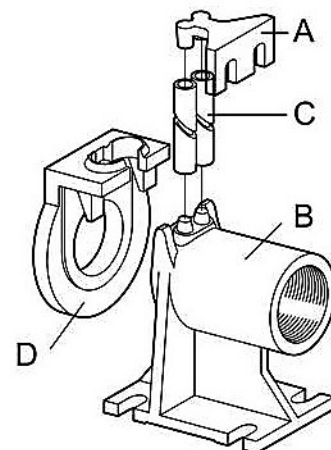

Fig. 7 | Anchor basis
- Fix the pipe anchoring bracket/basis (fig 7 - pos. A) to the edge of the tub.
- Place the support basis for the automatic coupling on the bottom of the tub (Fig. 7 pos B). Check, by means of a plumb line, that the conical projections are perfectly perpendicular to the corresponding projections of the tub edge anchor bracket.
- Mark the position of the slots on the support basis, then measure the exact length of the guide tubes (Fig. 7 - item C).
- Fit the special flange (Fig. 7 pos D) on the delivery side of the pump. Hook the rope (or chain) to the handle or slot on the top of the pump.